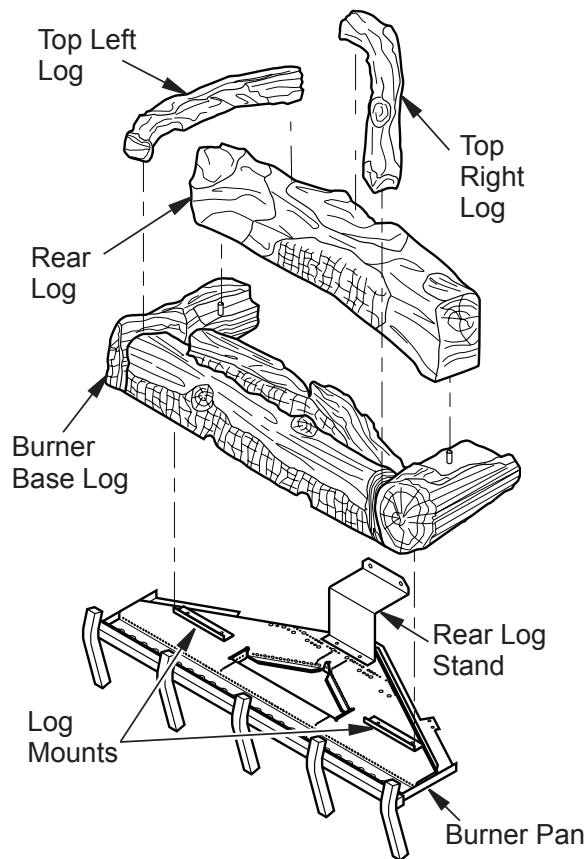

Figure 28 - Installing Logs
1. Position base log onto burner log mounts (see Figure 28).
2. Position holes on bottom of rear log over pins on base log (see Figure 28).
3. Position top left log and top right log onto rear log and base log as shown in Figure 28.